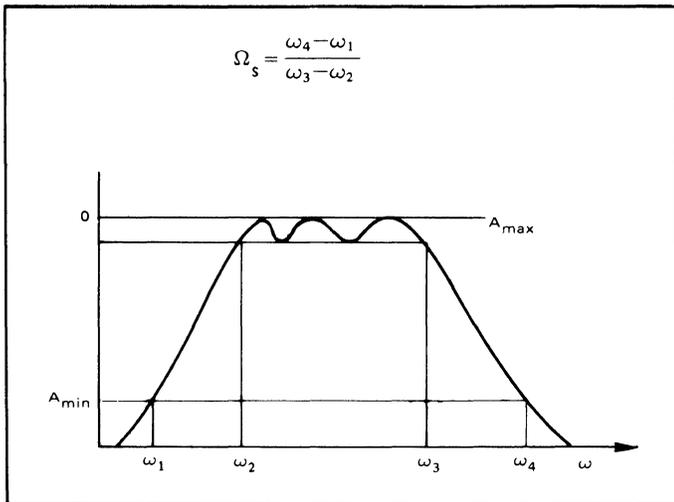
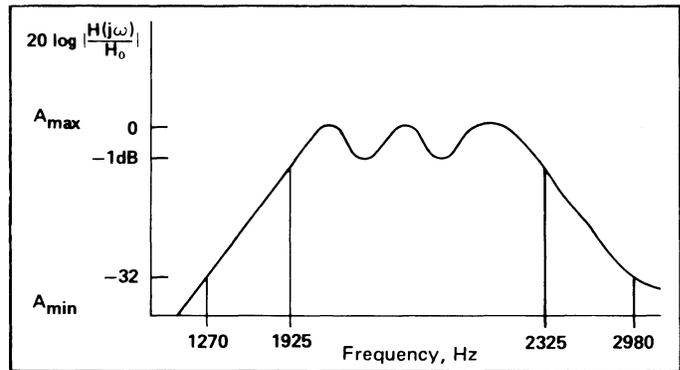

FIGURE 2
FIGURE 7
-42 dBm for the desired signal and -16 dBm from the local oscillator.) This means that in a worst case situation, the input level of the received signal is -42 dBm with the level of the local oscillator 26 dB above this. For the XR-2211 to operate with a low bit error rate, the input should be 6 dB higher than the interfering signal. This implies that the stopband A_{min} from Figure 2 is 32 dB. The XR-2211 has an internal preamplifier with a dynamic range of greater than 60 dB, and requires a minimum input level of -38 dBm to cause limiting. If we choose a filter to have a passband ripple of 1 dB and an overall gain of 5 dB, the input conditions of the XR-2211 will be satisfied. The filters introduce a phase shift that is only linear for approximately 1/2 to 1/3 of the passband, therefore, a bandwidth of 400 Hz is used for the filter. The general shape of the filter is shown in Figure 7.